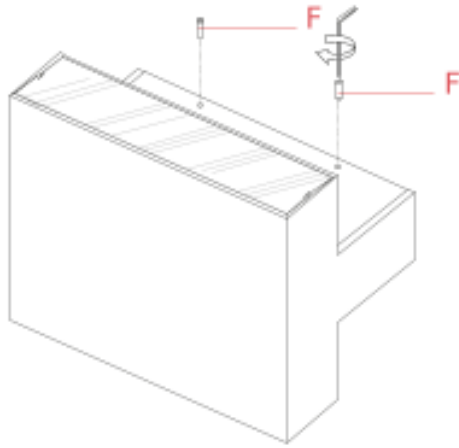

Fig.1
Unfasten the screws (F) through the Allen key tool (E). (Fig.1)